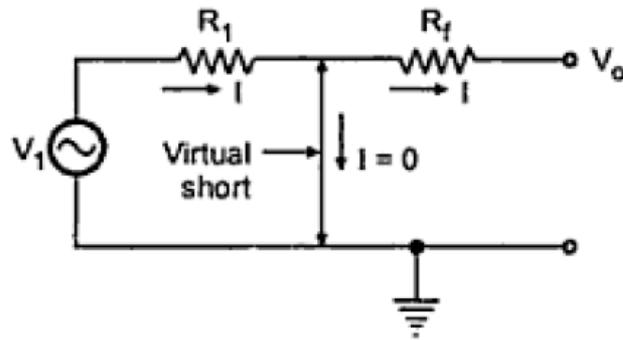

Figure 3.10: Virtual Ground Concept in Op-amp
i.e. There exists a virtual short circuit between the two input terminals, in the sense that their voltages are the same. So if one terminal is at ground, other terminal is at virtual ground. No current flows from the input terminals to the ground. The thick line in the Figure 3.10 indicates the virtual short circuit between the input terminals.